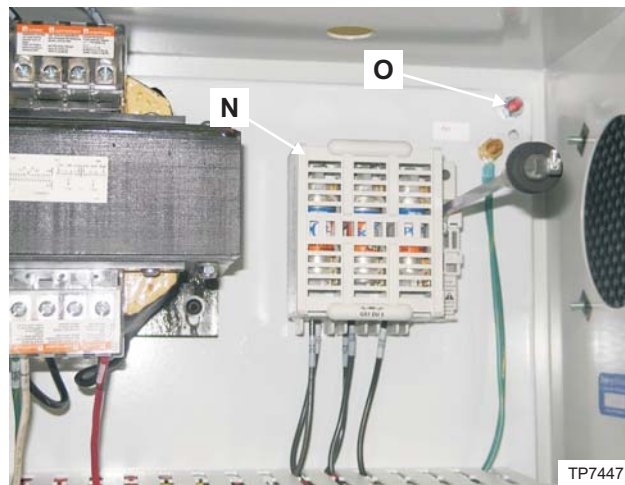

Figure 2.13 - Disconnect Switch and Ground Stud
4. Route the power cable into the top of the power case far enough to easily reach the top of disconnect switch "N" and ground stud "O", Figure 2.13.